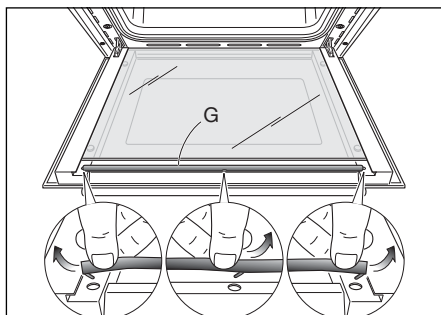

Fig. 21d
- Remove the seal "G" by unhooking the three fixing hooks (Fig. 21d).